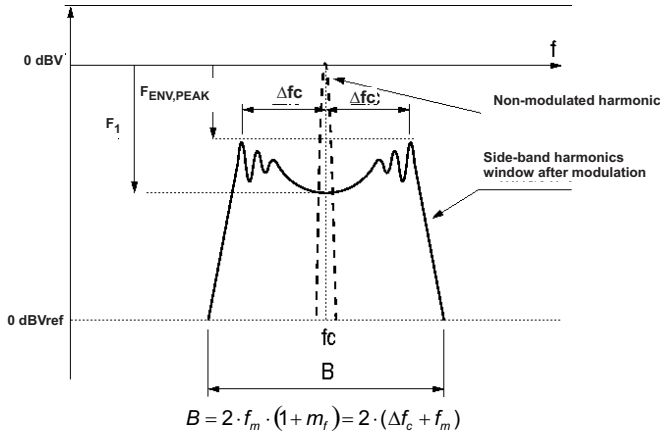
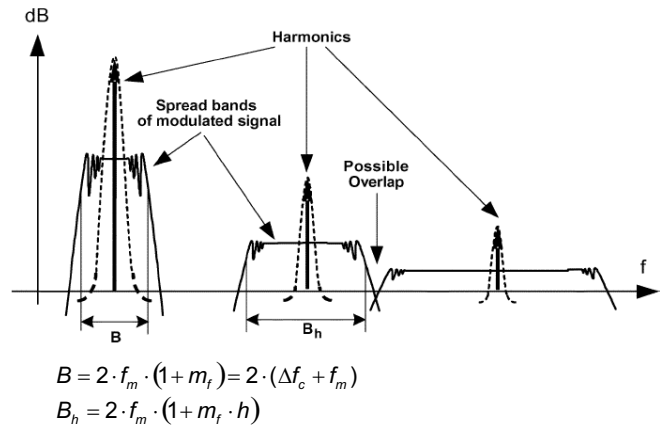

Figure 13. Spectrum Of A Frequency Modulated Sin. Wave With Sinusoidal Variation In Time
Figure 14. Spread Bands Of Harmonics In Modulated Square Signals (1)
(1) Spectrum illustrations and formulae (Figure 13 and Figure 14) copyright IEEE TRANSACTIONS ON ELECTROMAGNETIC COMPATIBILITY, VOL. 47, NO.3, AUGUST 2005. See References Section for full citation.